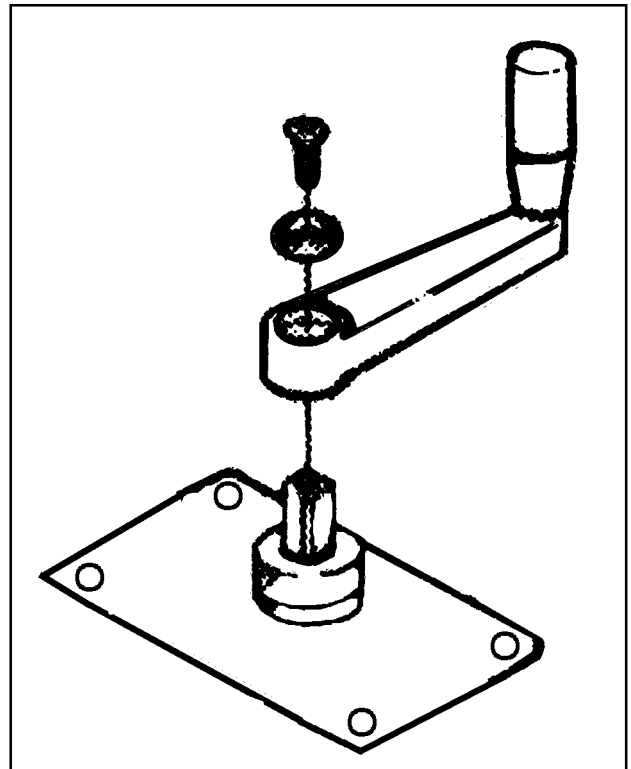

Figure 2-5—Install Height Adjustment Handle
- Using a 3 mm hex wrench, remove the Height Adjustment Handle and reinstall it with the handle pointing upward as shown in Figure 2-5.